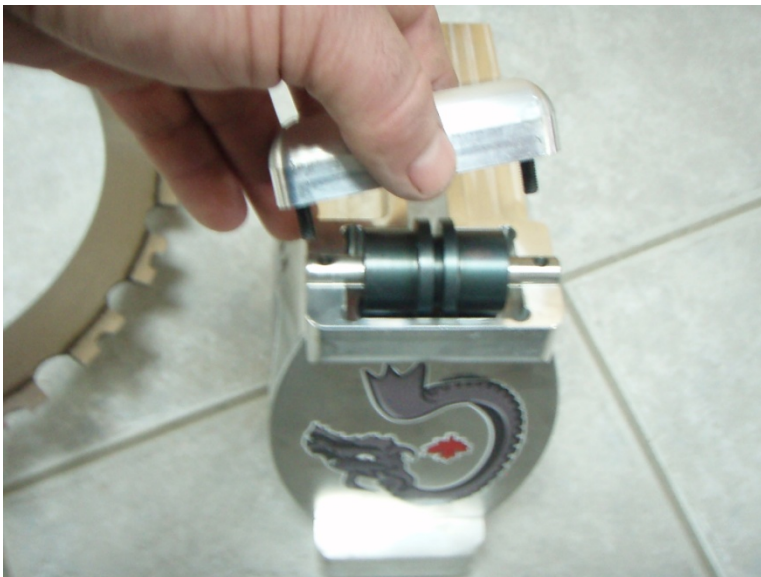

Figure 10
Step 10: Using 5/32" allen wrench provided, remove guide roller cover and inspect both guide rollers for wear or damage. Guide rollers should spin freely. Replace if necessary (figure 10).